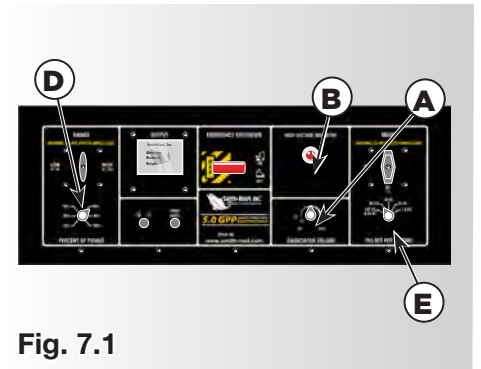
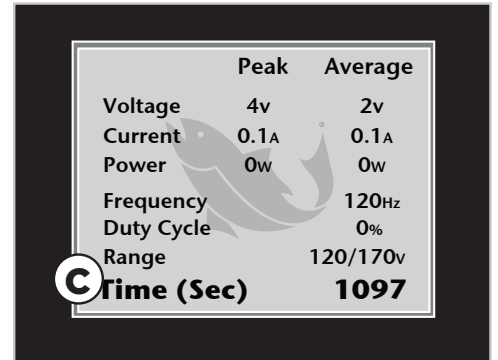

Fig. 7.1
Fig. 7.2
- When the Red Light (See Fig. 7.1, A) is illuminated, the display (See Fig. 7.1, B) should show current and voltage and the seconds counter (See Fig. 7.2, C) should be counting.
- Adjusting the “Percent of Range” (See Fig. 7.1, D) up to 100% will increase the amperage shown on the Current Meter.
- Switch the “Mode” switch (See Fig. 7.1, E) from 120 PPS to 60 PPS. The amperage should drop by half.